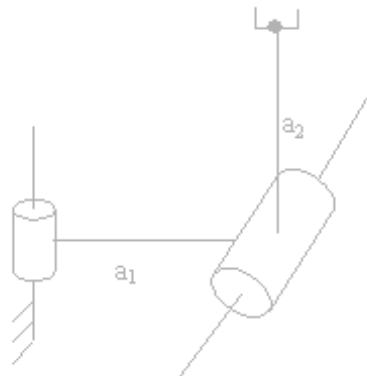

Figure 3b
3. (a) Find the D-H parameters for the two-link arm shown in Figure 3b, and also obtain the kinematic equations. [10+6]